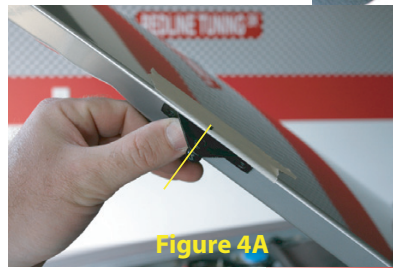

Figure 4A
A. Align the center of the bracket with the mark you just made on the hood. You will need to view the hood directly from the side as shown in **Figure 4A**. The bracket should sit on the flat hood frame tucked up against the hood's skin with the ball stud facing down (toward the engine) **Figure 4B**.